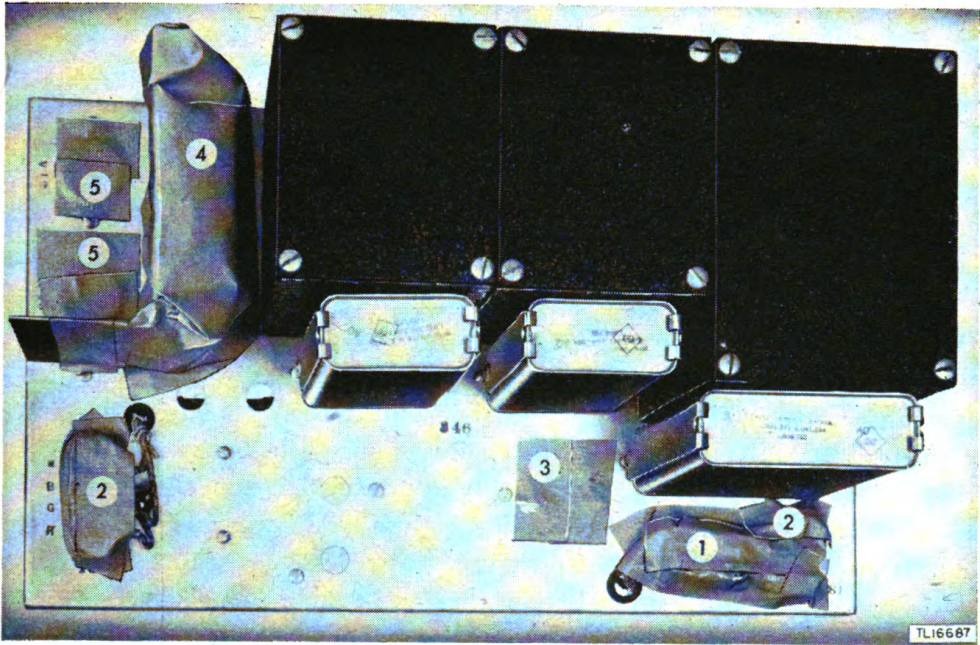
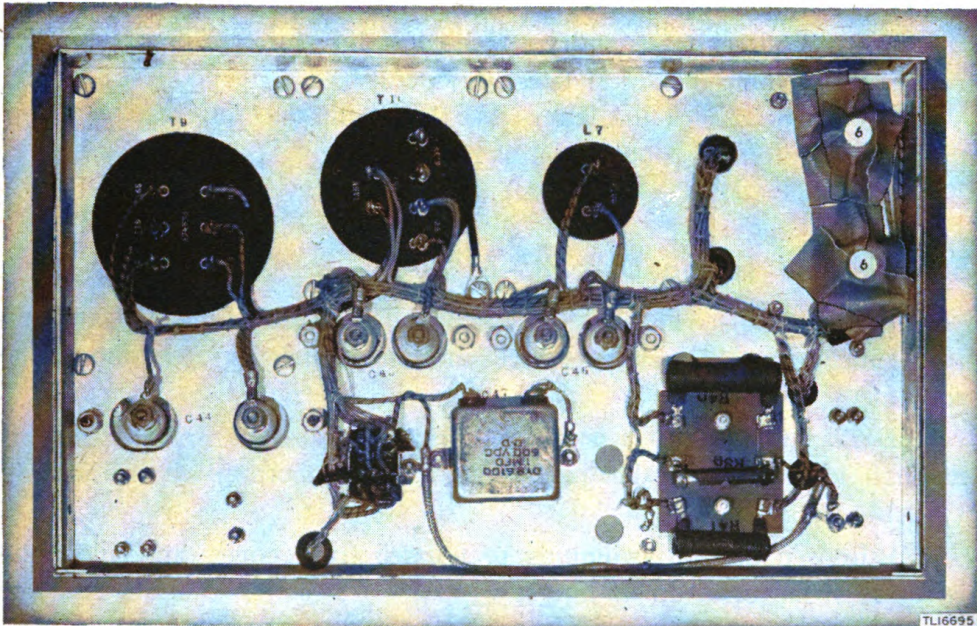

Figure 12. Radio Receiver and Transmitter BC-441-(\*), masked power chassis—top view.
Figure 13. Radio Receiver and Transmitter BC-441-(\*), masked power chassis—bottom view.
f. MASKING POWER CHASSIS (FIGS. 12 AND 13). Mask the following components:
- (1) Fuse clips.
- (2) Terminal screws on the power and handset terminal strips,
- (3) Interconnecting plug receptacle,
- (4) Two relays.
- (5) Tube sockets.
- (6) Bottom of tube sockets (fig. 13),